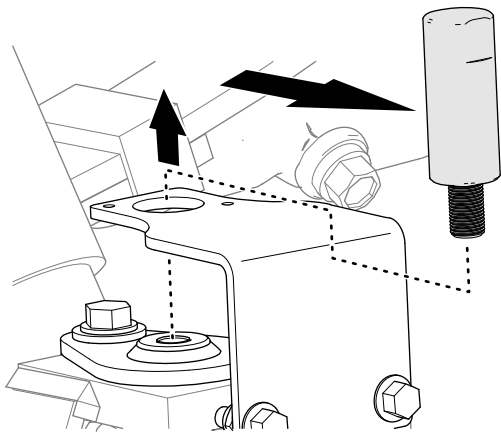

Figure 19
6. Remove the alignment tool (Figure 19).